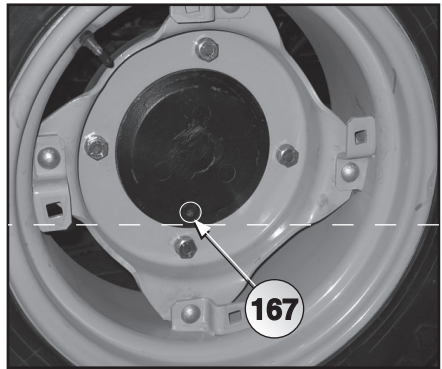
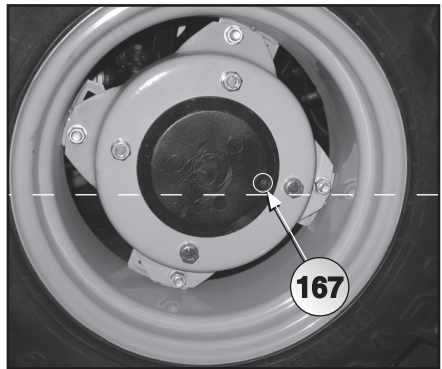

Fig. 6.31
Fig. 6.32
- position the tractor so that the plug (167 Fig. 6.31) is at the lowest point of the tractor itself;
- remove the plug (167) and let all of the oil in the reduction gear drain out;
- position the tractor so that the plug (167 Fig. 6.32) is on the horizontal center line of the tractor itself;
- replenish the case with **BCS POWER-LUBE W13T** (0.8 lt RS-MT tractor) up to the edge of the plug (167);
- then replace the plug (167).